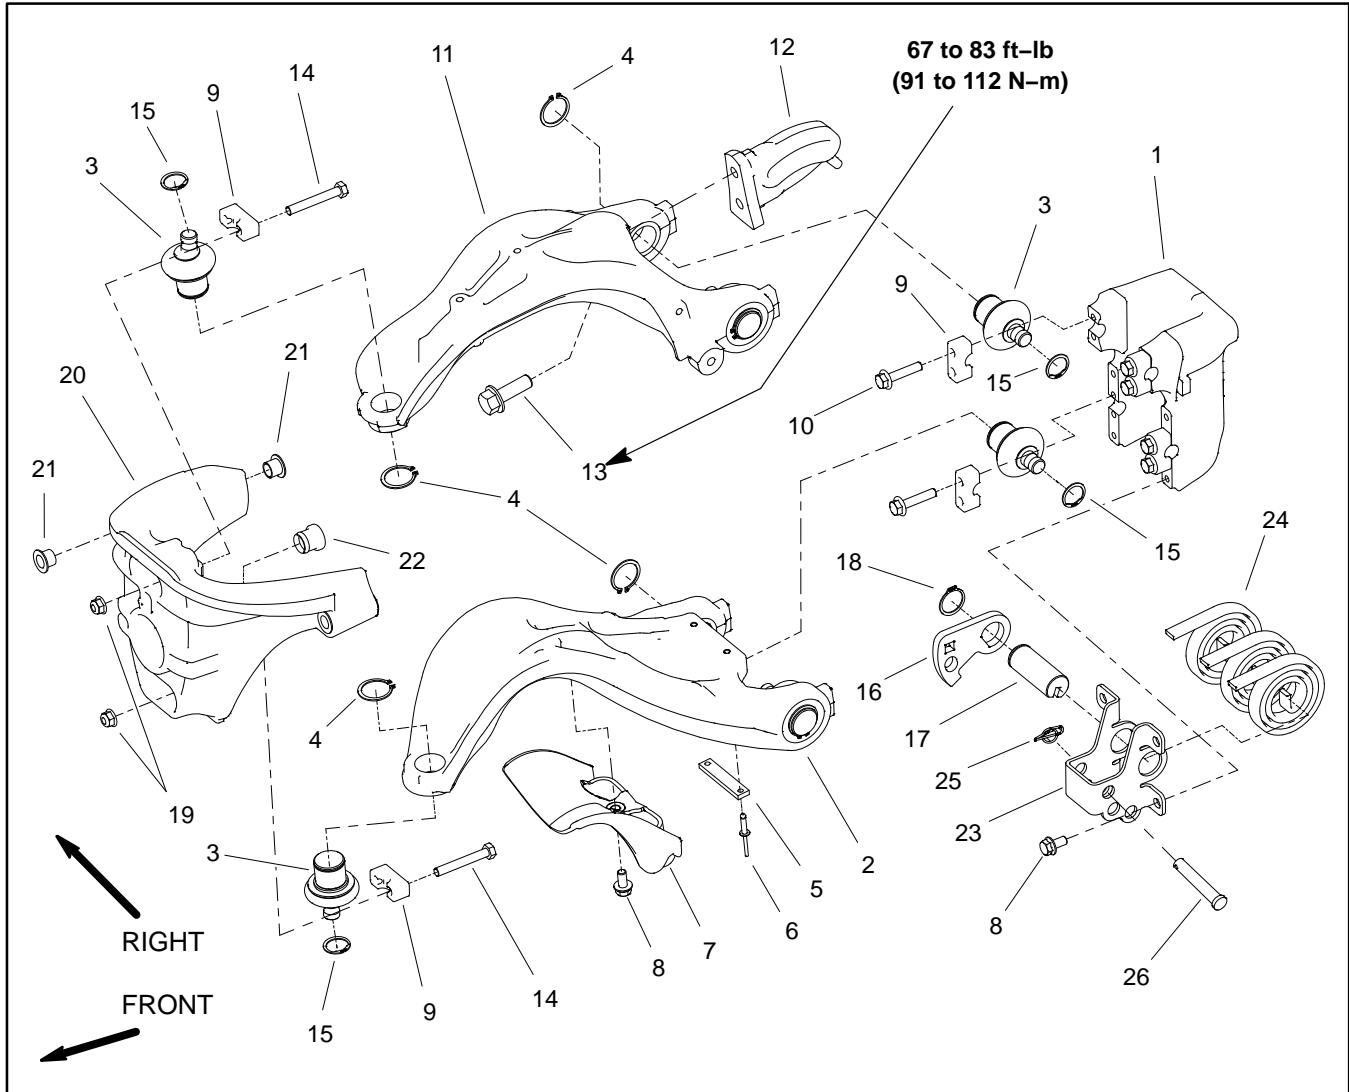

Figure 20
Disassembly (Fig. 20)
3. Disassemble suspension assembly as required using Figure 20 as a guide.
Assembly (Fig. 20)
1. Install all removed suspension assembly components using Figure 20 as a guide.
- A. If any ball joint (item 3) was removed from A–arm, clean ball joint housing and A–arm bore with Loctite cleaning solvent (or equivalent) and allow to dry. Apply Loctite #609 retaining compound (or equivalent) to ball joint housing before inserting ball joint into A–arm.
- B. If any clamp (item 9) was removed, make sure that raised boss in clamp bore is positioned in groove of ball joint stud before securing clamp.